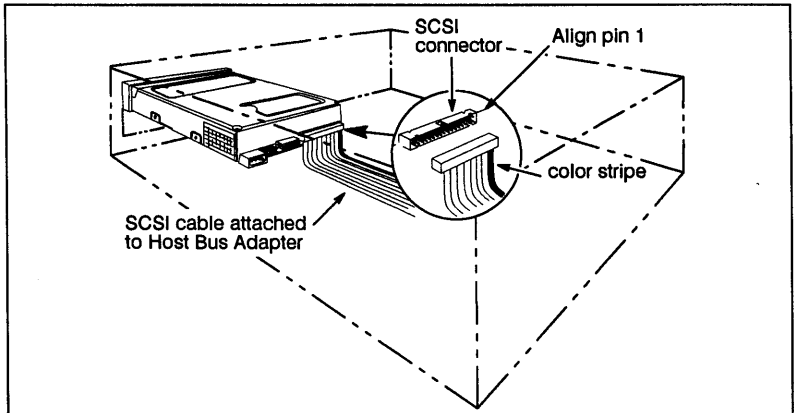

Figure 1-7. Connecting the SCSI Cable
- e. Connect the 50-pin SCSI cable to the SCSI connector on the drive. Make sure you align pin 1 of the connector with pin 1 (color stripe end) of the cable. See FIGURE 1-7.